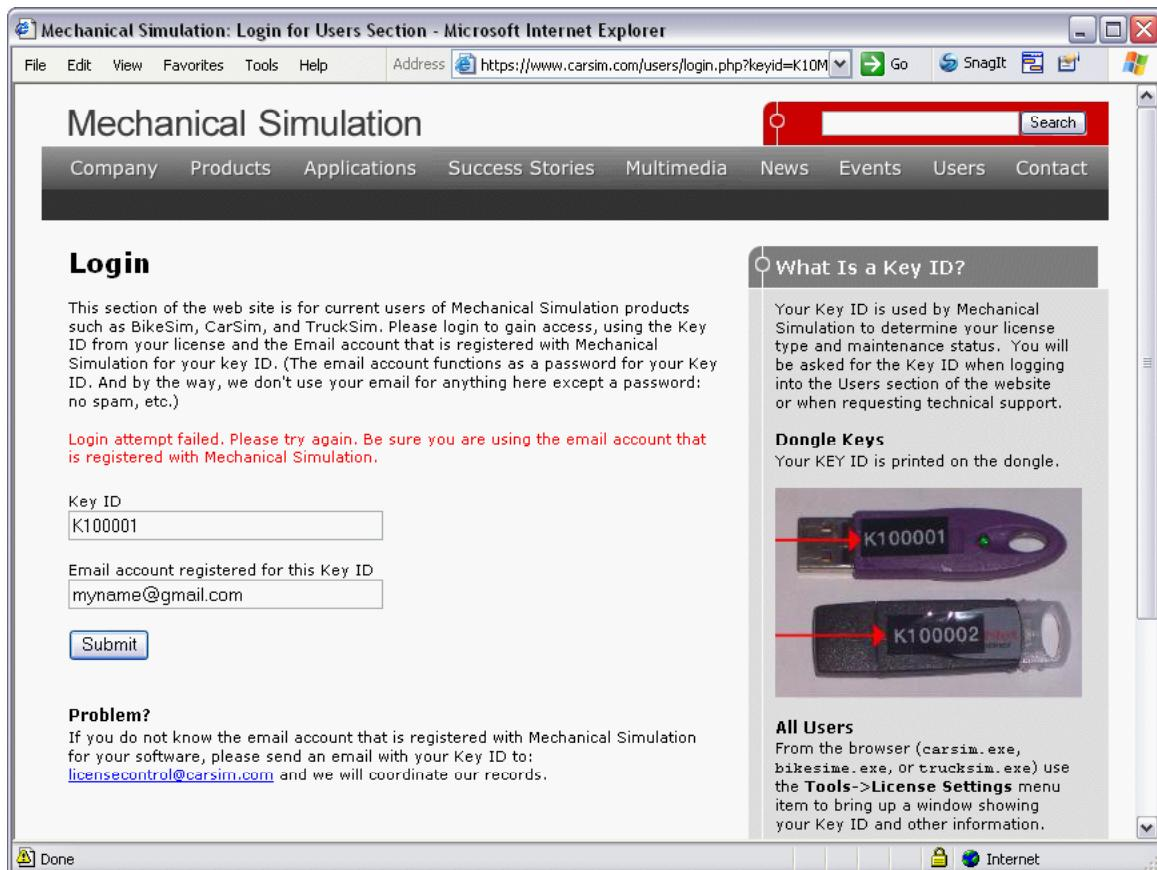

Figure 61. Login to user section of web site.
7. If you have Internet access, try the web link near the bottom of the **Help** menu: **Check web site for updates**. If you have not visited this part of the CarSim site before, you will be prompted for a password (Figure 61).